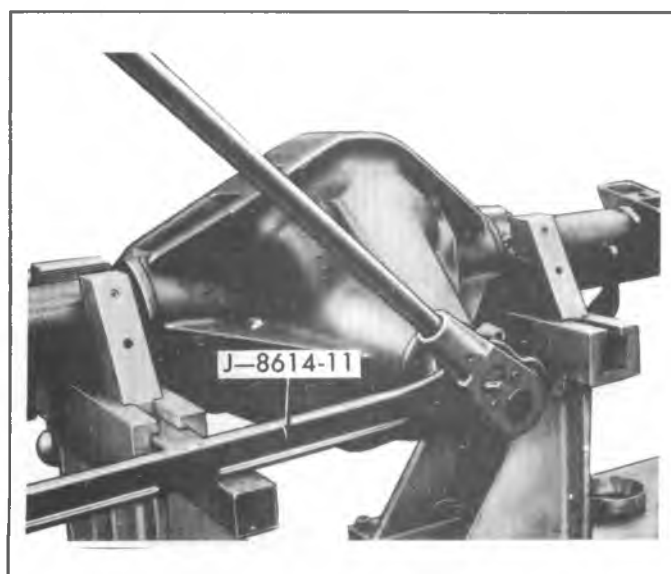

Fig. 4B3-5--Removing Pinion Nut
3. Install Holder J-8614-11 on flange by using two bolts with flat washers, as shown in figure 4B3-5.
5. Thread end of J-8614-3 into small O.D. end of J-8614-2. Then with J-8614-11 installed as in step 3, insert J-8614-2 into J-8614-11 and turn it 1/8 of a turn to locked position. Remove flange by turning J-8614-3 while holding J-8614-22 as shown in figure 4B3-6.